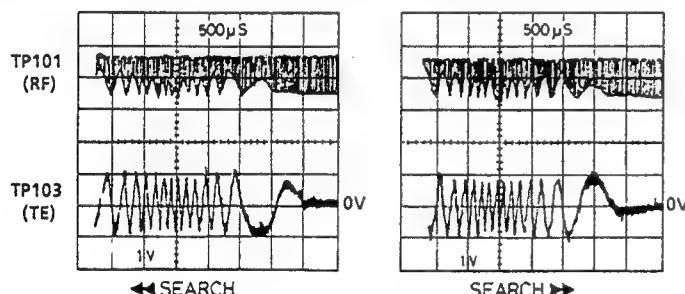

Fig.1
- ① Connect the frequency counter to TP37(H),TP104(E).
- ② Turn on the power of the unit.
- ③ Adjust T102 so that the frequency counter reads 4.30 ± 0.01 MHz.
- ① Connect the oscilloscope to TP103(TE),TP104(E).
- ③ Insert Test Disc and press the Play button.
- ④ Continuously press the forward(or reverse) search button.
- ⑤ Adjust SVR11 so that the waveform of TP103(TE) is vertically symmetrical relative to DC 0V level. (Refer to fig.1).